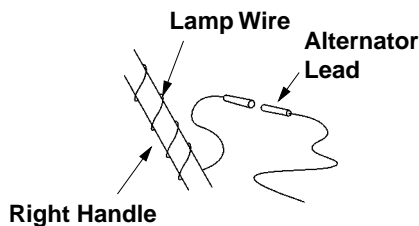

Figure 18
- Wrap the wire from the lamp down the right handle until the wire can be plugged into the alternator lead wire under the fuel tank. See Figure 18. Be sure lamp wire does not interfere with the movement of any controls or cables.